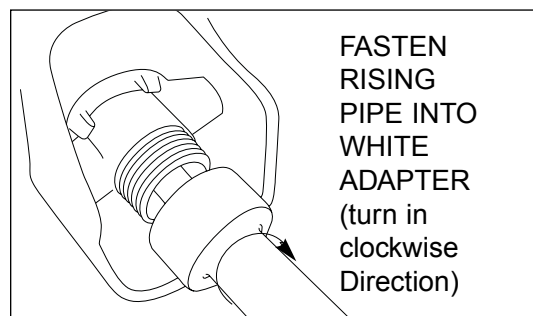

Figure 12
1. Fill the beverage container with a beverage of your choice. Make sure to fill only to the lower edge of the handles. Fasten the RISING PIPE securely into the WHITE ADAPTER (See *Figure 12*).